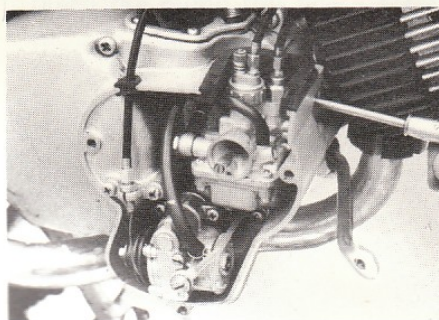

Fig. 3-5
4. Remove the carburetor cover, take out the carburetor, and disconnect the fuel line. (Figs. 3-5 & 3-6)